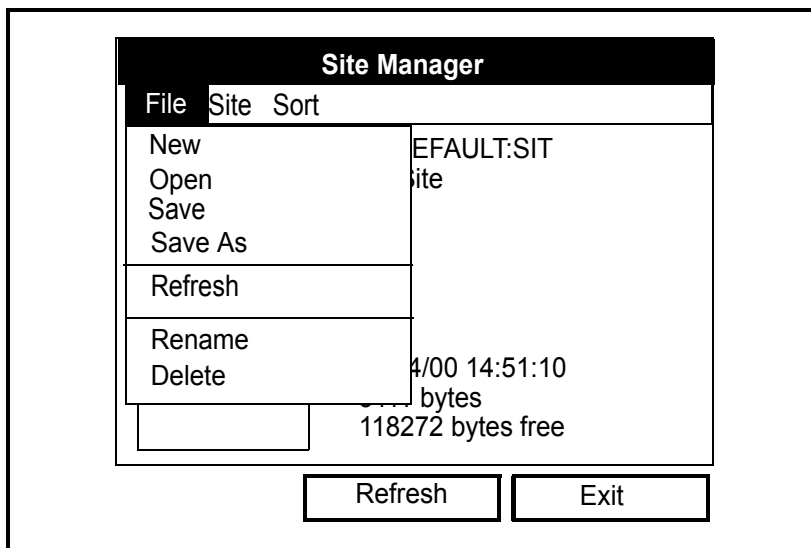

Figure 4-3: The Site Manager Menu
1. At the *Site Manager* window, press [MENU] and then [ENTER]. A window similar to Figure 4-3 below opens.
- From the *Site Manager* (see Figure 4-3 on page 4-3), press [MENU] to open the *File* menu. Then, scroll to the *Save* option, and press [ENTER].